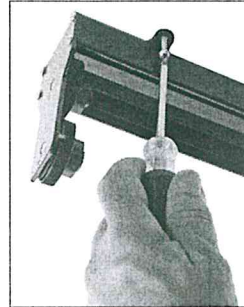

Fig. 5
- Hold the shade in the position in which you want it installed. Insert fasteners into each mounting bracket screw opening, and secure. (Fig. 5) Each mounting bracket must have two fasteners installed (front and back). A second person may be helpful!